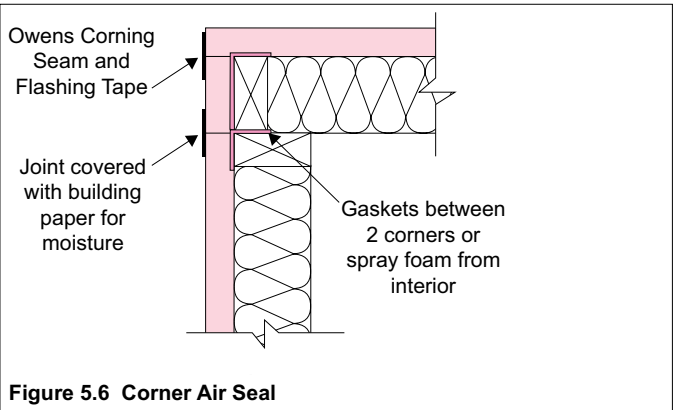

Figure 5.6 Corner Air Seal
3. Alternate corner sealing approach. See Figure 5.6.